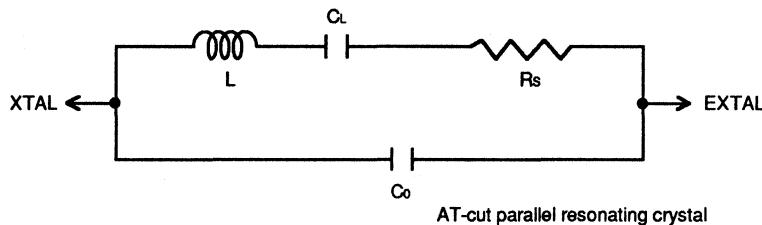

**Figure 16-2. Connection of Crystal Oscillator (Example)**
- ① **Circuit Configuration:** An external crystal can be connected as in the example in Figure 16-2. An AT-cut parallel resonating crystal should be used.